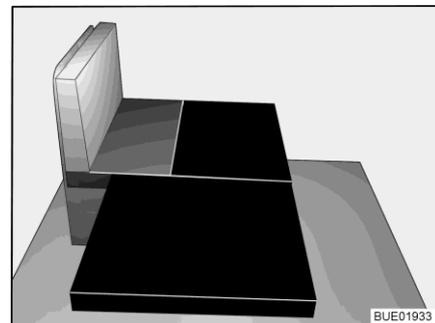

Fig. 60 After conversion
- Place large additional cushion on the cushion support (refer to Fig. 60).